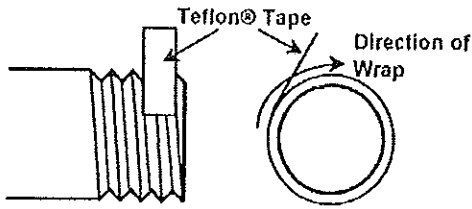

FIGURE 1
- 3) Wrench tighten tailpipes of upper and lower valves to the vessel using Teflon® tape, or equivalent, on all male tapered pipe thread connections as shown in Figure 1. If the valve is flanged or weld mount, use proper industry standard procedures.